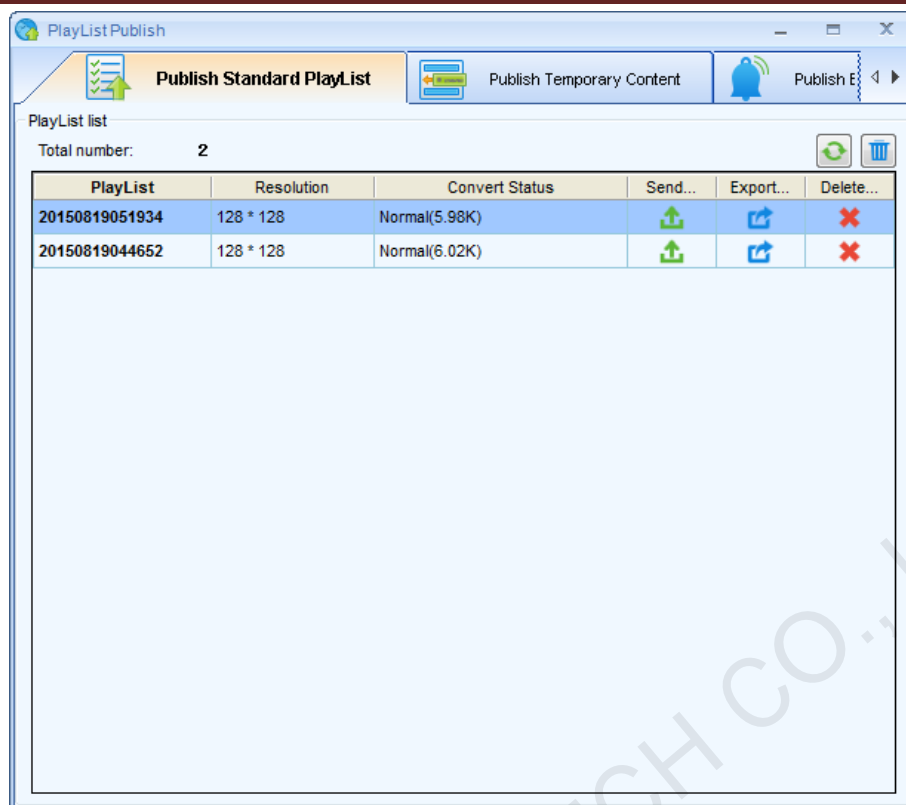

Fig. 10-63 Play-Program publishing page
- 3) After setting of insert play options, click **Publish** button at the bottom of the page. Edit parameter of convert video window will pop up, as shown in Fig.10-63. Choose the video effect to be converted to, and click **OK**. After conversion is completed, the following window will pop up: